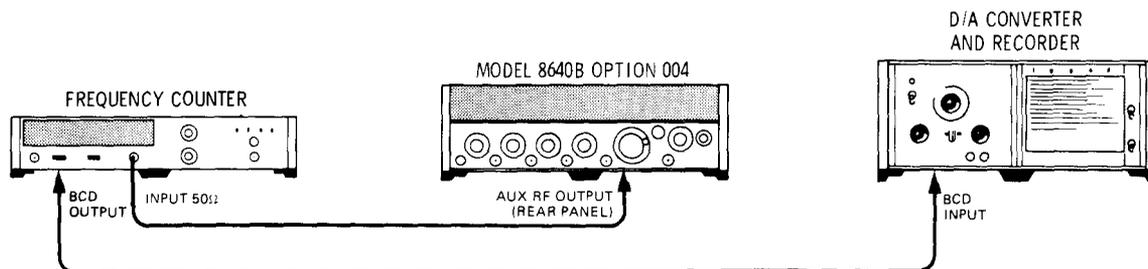

Figure 4-1. Frequency Stability us Time and Restabilization Time Test Setup
1. Connect equipment as shown in Figure 4-1 after setting Signal Generator's controls as follows: